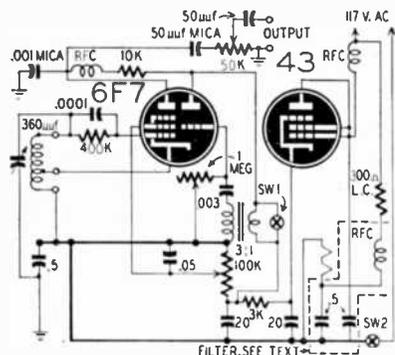

Fig. 615
r.f. oscillator and a.f. oscillator. A 43 with control and screen grids tied to the plate was used as a rectifier. (See Fig. 615).